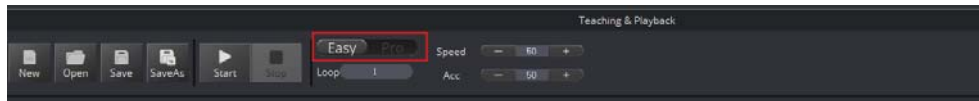

Figure 5.192 Switch advanced function
Step 1 Click  icon on the **Teaching&Playback** page, as shown in Figure 5.192.